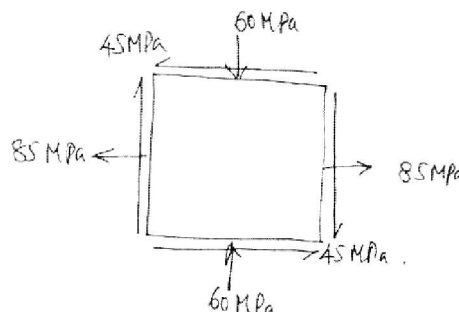

Fig.Q3(a)
- 3 a. For a state of stresses with  $\sigma_x = 85 \text{ MPa}$  (Tensile),  $\sigma_y = 60 \text{ MPa}$  (compressive) with a shear stress of  $45 \text{ MPa}$ , determine the principal stresses and locate principal planes. Also obtain maximum tangential stress and locate corresponding planes (Fig.Q3(a)). (10 Marks)